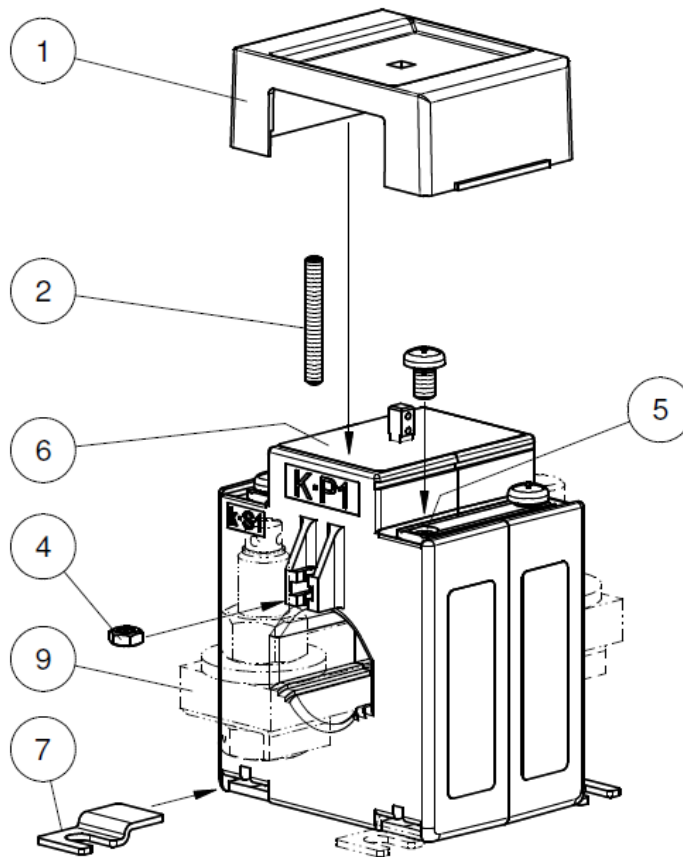

Figure 2.34: LMG-Z702 Drawing 3D
Description of Figure 2.34:
- 2 Secondary terminals, max. tightening torque see Figure 2.34
- 3 Primary conductor fixture, max. tightening torque see Figure 2.34